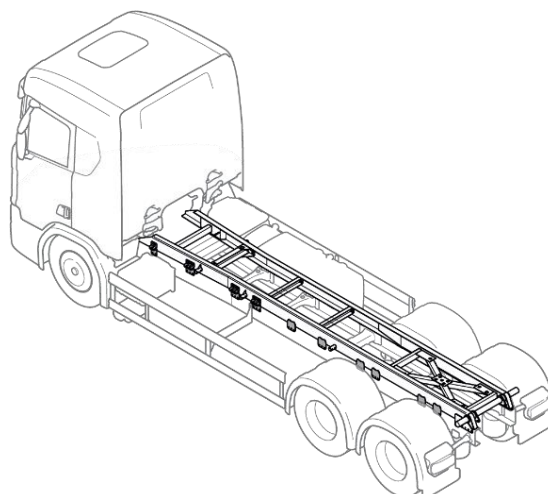

Figure 1: Full length sub-frame examples
- Try to use a full-length sub-frame, starting from above the rear mounting bracket of the front suspension, especially for rear mounted VMLS (see Figure 1).